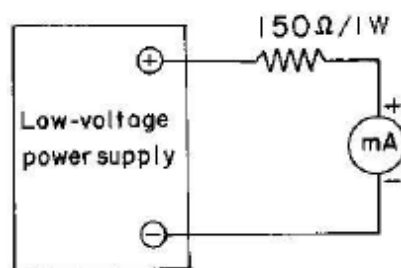

Fig. 1. Measuring the current by an ammeter.
2. Series connect the ammeter with the electric circuit shows in Fig. 1. Turn on the DC power supply up to 5V, and read the magnitude of the current. Note, setting the output knob in the minimum value before turning on the power supply.
1. In Fig. 1, measure the current pass through the 150Ω resistance by your ammeter. Compare the voltage different of the ammeter and the resistance.